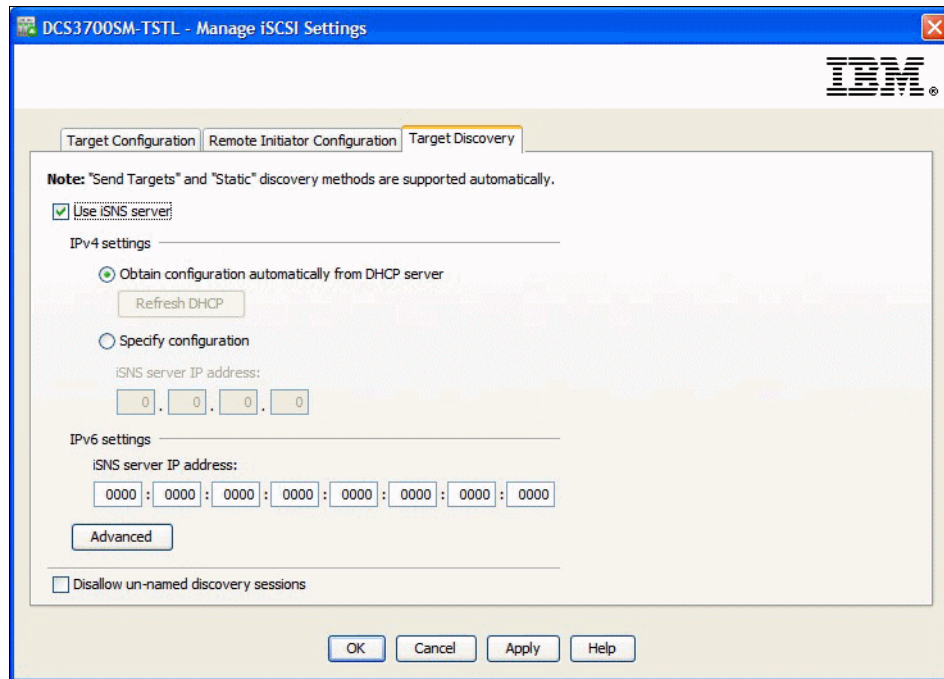

Figure 12-9 Target Discovery - Enable iSNS server
The techniques for target discovery are described in 1.3, “iSCSI disk attachment”, of *IBM System Storage DS3500 Introduction and Implementation Guide*, SG24-7914. You can use the Target Discovery tab in the Manage iSCSI Setting window (Figure 12-9 on page 372) to specify whether an Internet Storage Name Service (iSNS) is used to register this iSCSI target so that it is more easily found by iSCSI initiators.
2. Select **Use iSNS server**, as shown in Figure 12-9.